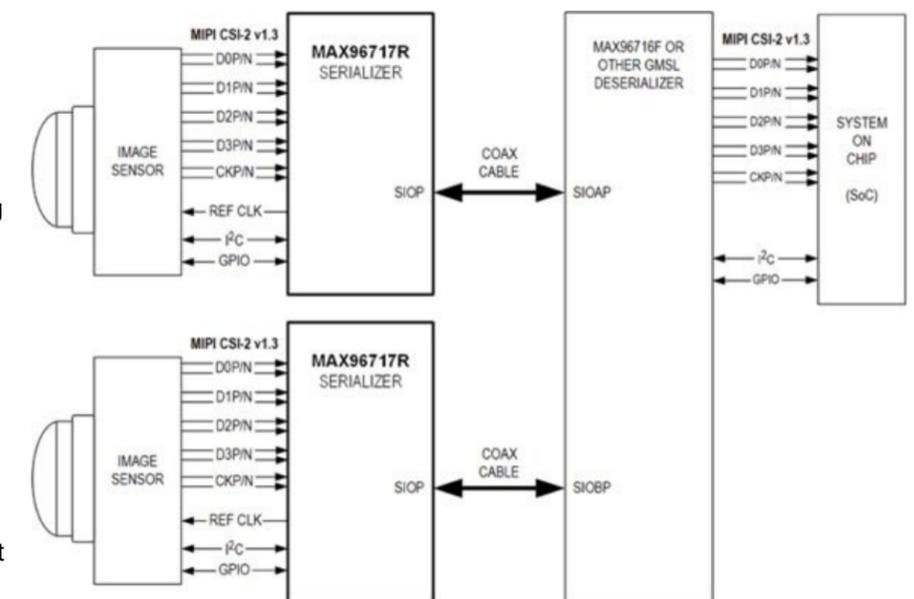

Figure 3: A schematic illustrating the data stream utilizing MAX96717 serializers. Image source: Analog Devices, Inc.
- MAX96717, a CSI-2 to GMSL2 serializer (Figure 3), operates at a fixed rate of 3Gbps or 6Gbps in the forward direction and 187.5Mbps in the reverse direction
output configuration). The cores are designed to allow optimization of regulator operations; most of the functions are programmable, thus ensuring flexible regulator operation in each application (Figure 3).
Figure 3: The functional block diagram of a single core showing the control elements that manage the phasing and voltage control of each of the four cores in the LP875610BRNFRQ1. Image source: Texas Instruments